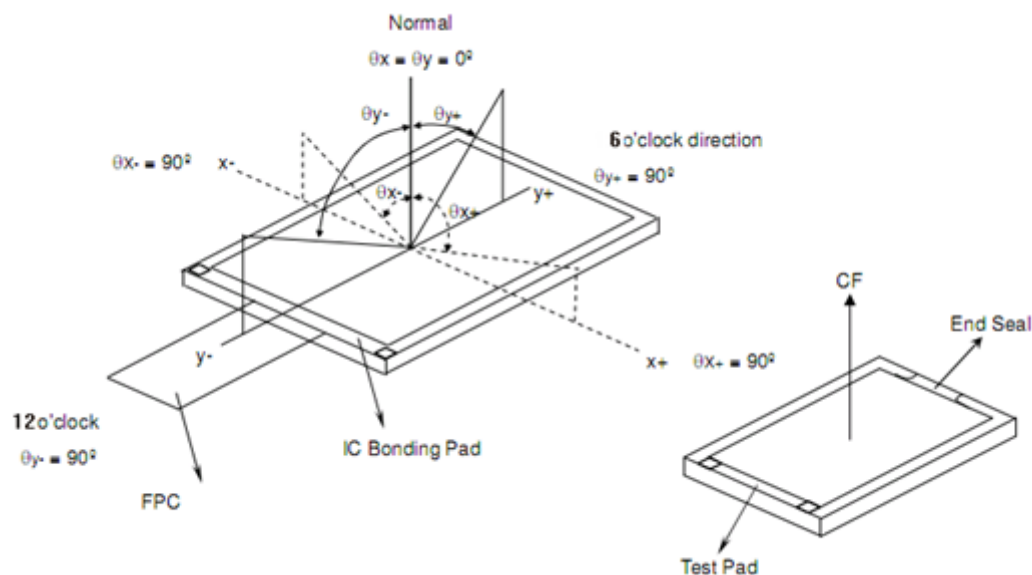

Figure 3. Definition of viewing angle
6. The electro-optical response time measurements shall be made as FIGURE 3 shown in Appendix by switching the “data” input signal ON and OFF. The times needed for the luminance to change from 10% to 90% is T_r , and 90% to 10% is T_d